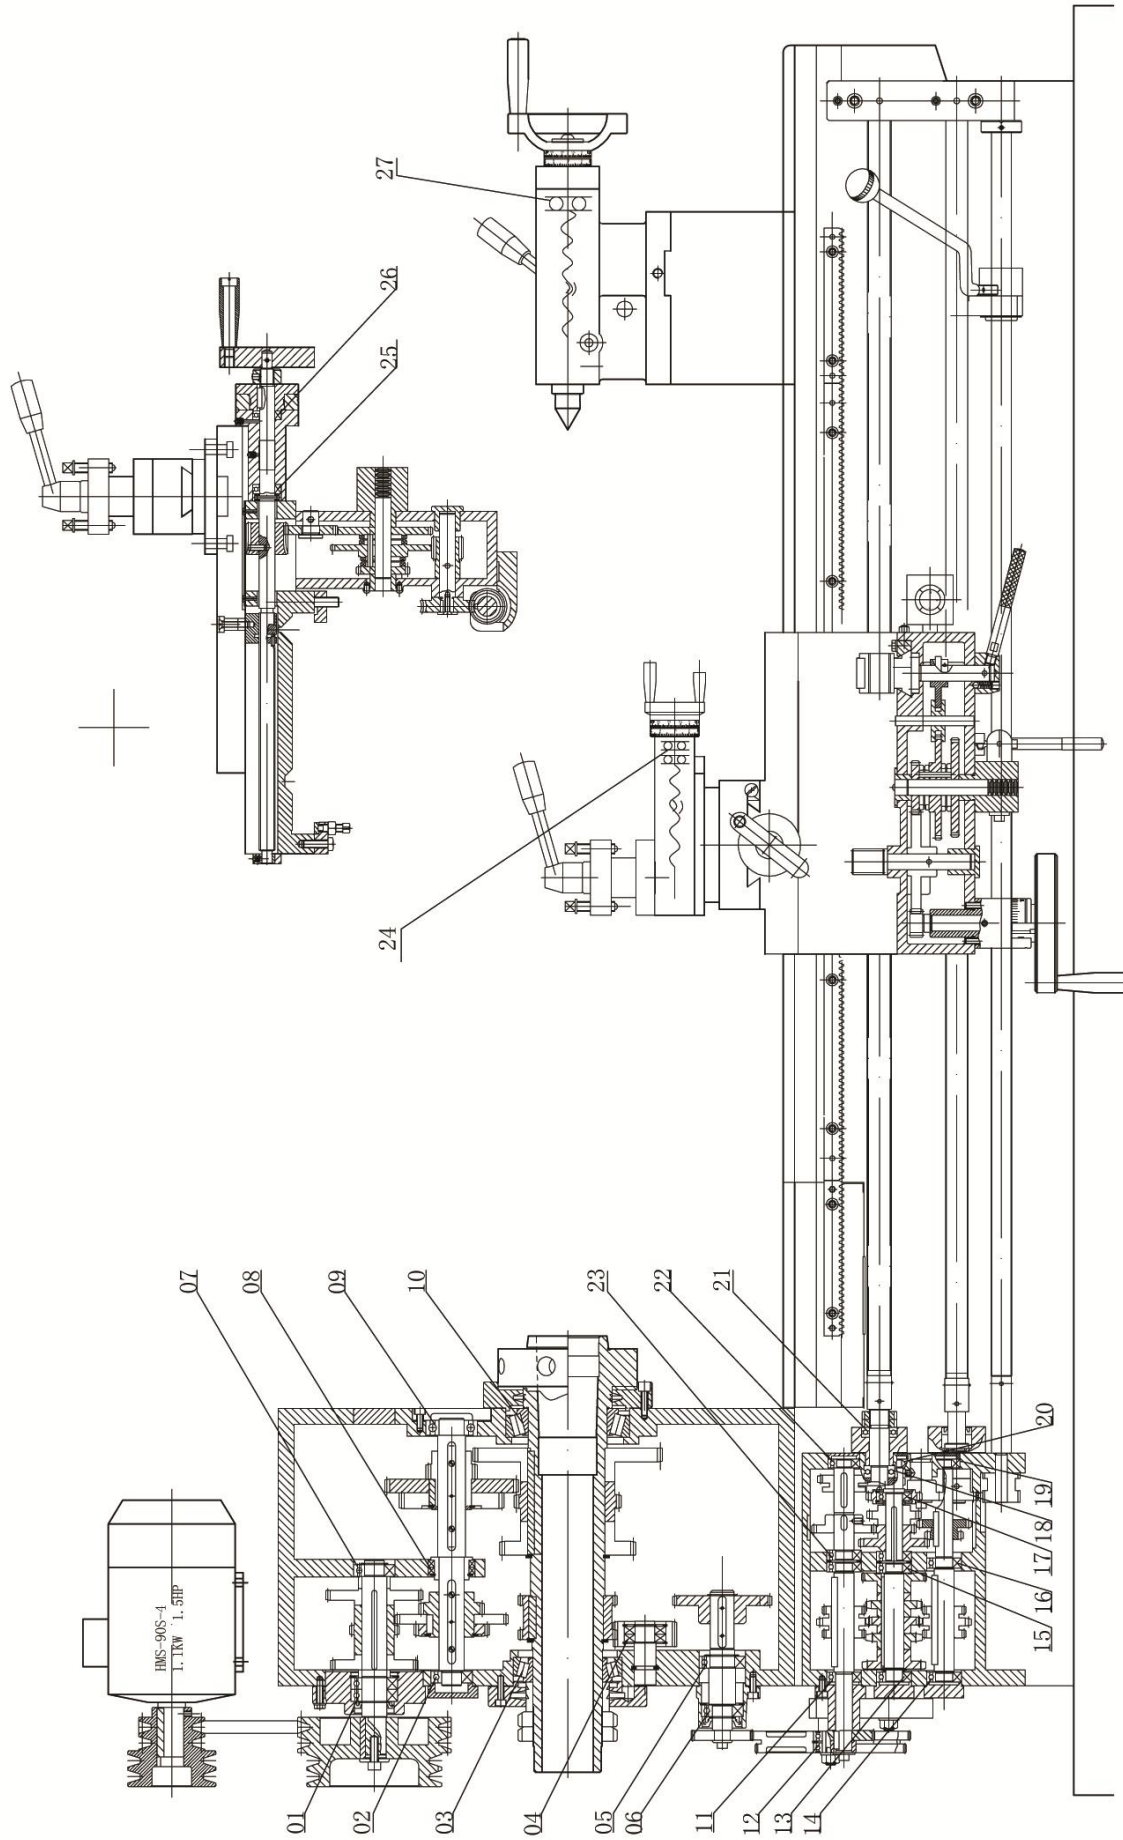

Fig5 Bearing distribution
## VII BEARING DISTRIBUTION AND LIST———— Fig5. Table 2
**BEARING LIST (SEE FIG 5)**